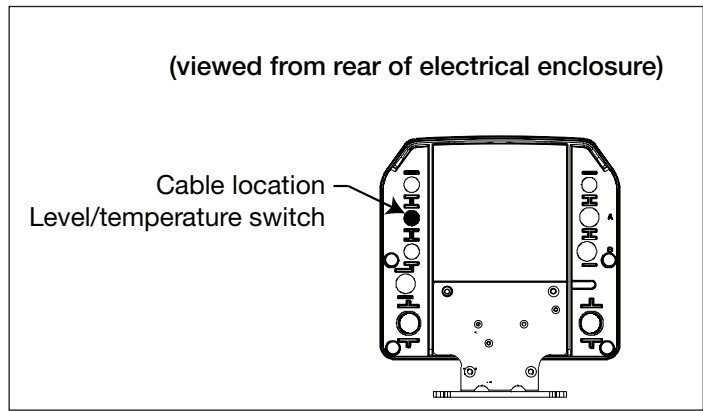

Figure 4, Cable Routing Location, ZE and ZW Series Pumps
3. At the rear of the electrical enclosure, remove the plug covering the hole for the level/temperature switch cable (see Fig. 4).